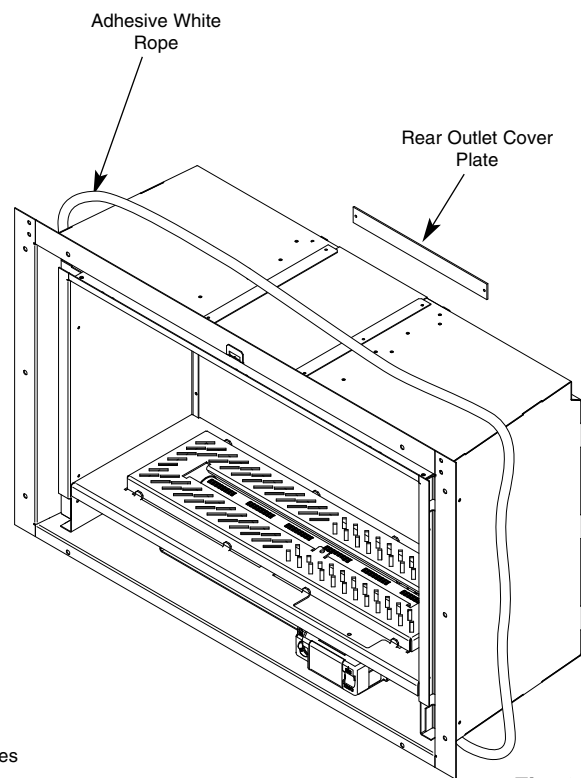

Fig. 8
3. Remove the rear flue outlet cover plate, this is secured with two pozi head screws, this cover is no longer needed and may be discarded (Fig. 8).
4. Fit the adhesive white rope seal to the back of the fire front flange (Fig. 8)